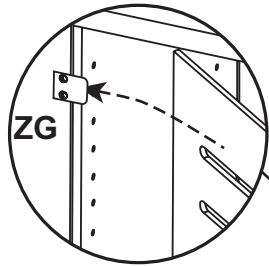

Fig. 2a
2. You may want to remove the Removable Backs (Nb) so that you can place your media units into the console more easily. To do so, unlock the Turn Button (ZH) as shown in Figures 2 and 2b. Slide the backs away and place them off to the side. To put them back into place, slide the backs behind the Drawer Stops (ZG) and position the Turn Button so that it is locked. See Figures 2a and 2b.